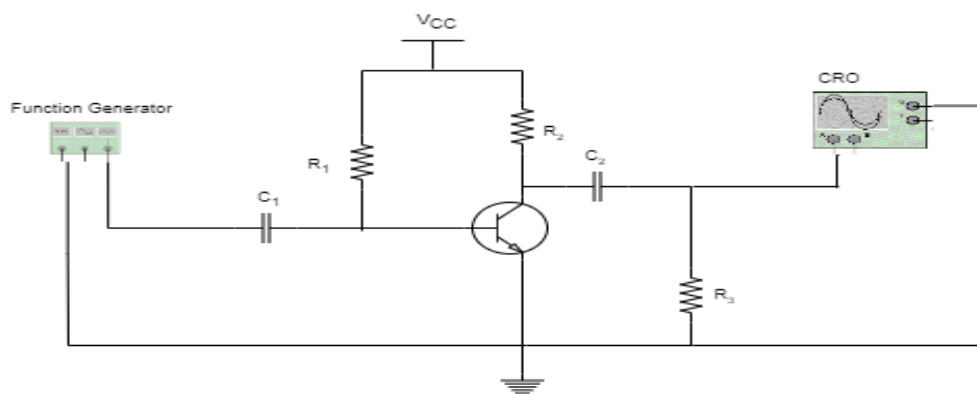

Figure13.1: Class A power amplifier
Power amplifiers are mainly used to deliver more power to the load. To deliver more power it requires large input signals, so generally power amplifiers are preceded by a series of voltage amplifiers. In class-A power amplifiers, the Q-point is located in the middle of the DC-load line. In the class B amplifier, the Q-point is below the active region. To explore and understand power amplifier design the following exercise using figure13.1 and 13.2.
13.1 Simulate class A power amplifier (transformer less) as shown in figure 13.1 using MULTISIM.